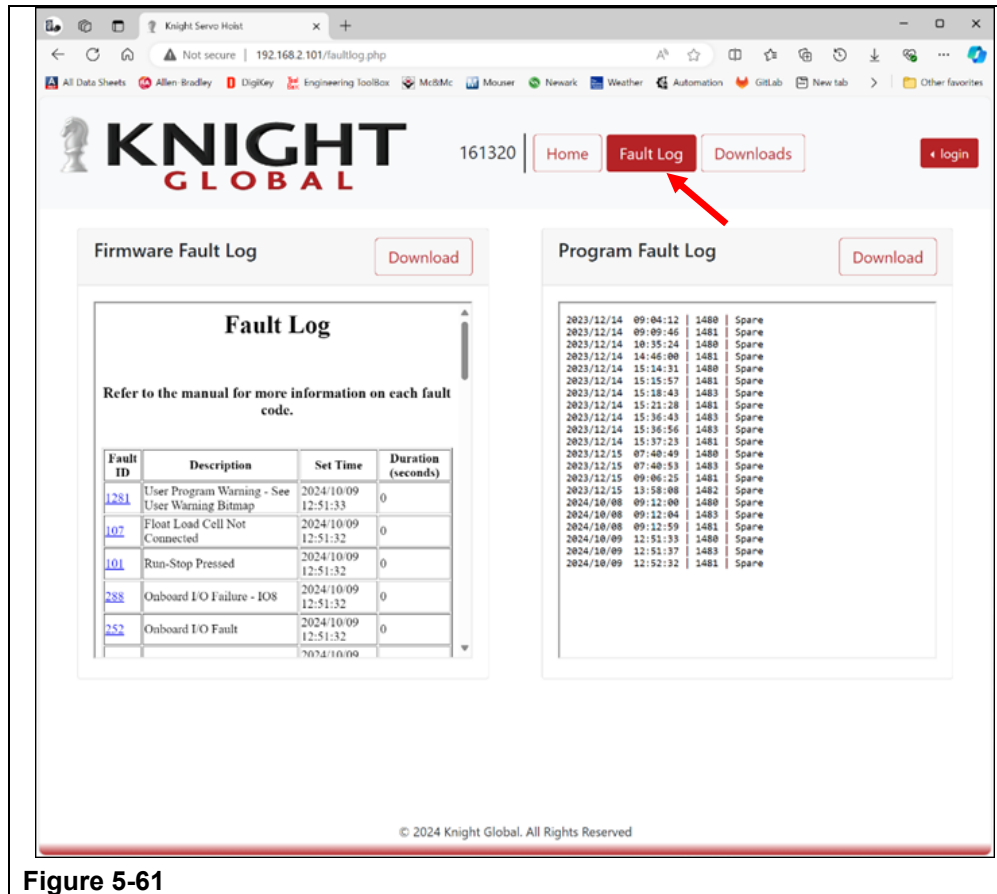

Figure 5-61
- Step 3. Select the 'Fault Logs' button to see a list of all the faults recorded by the servo. Each fault will have a 'Fault ID', a 'Description', the time the fault occurred and the duration the fault lasted. (See Figure 5-61)